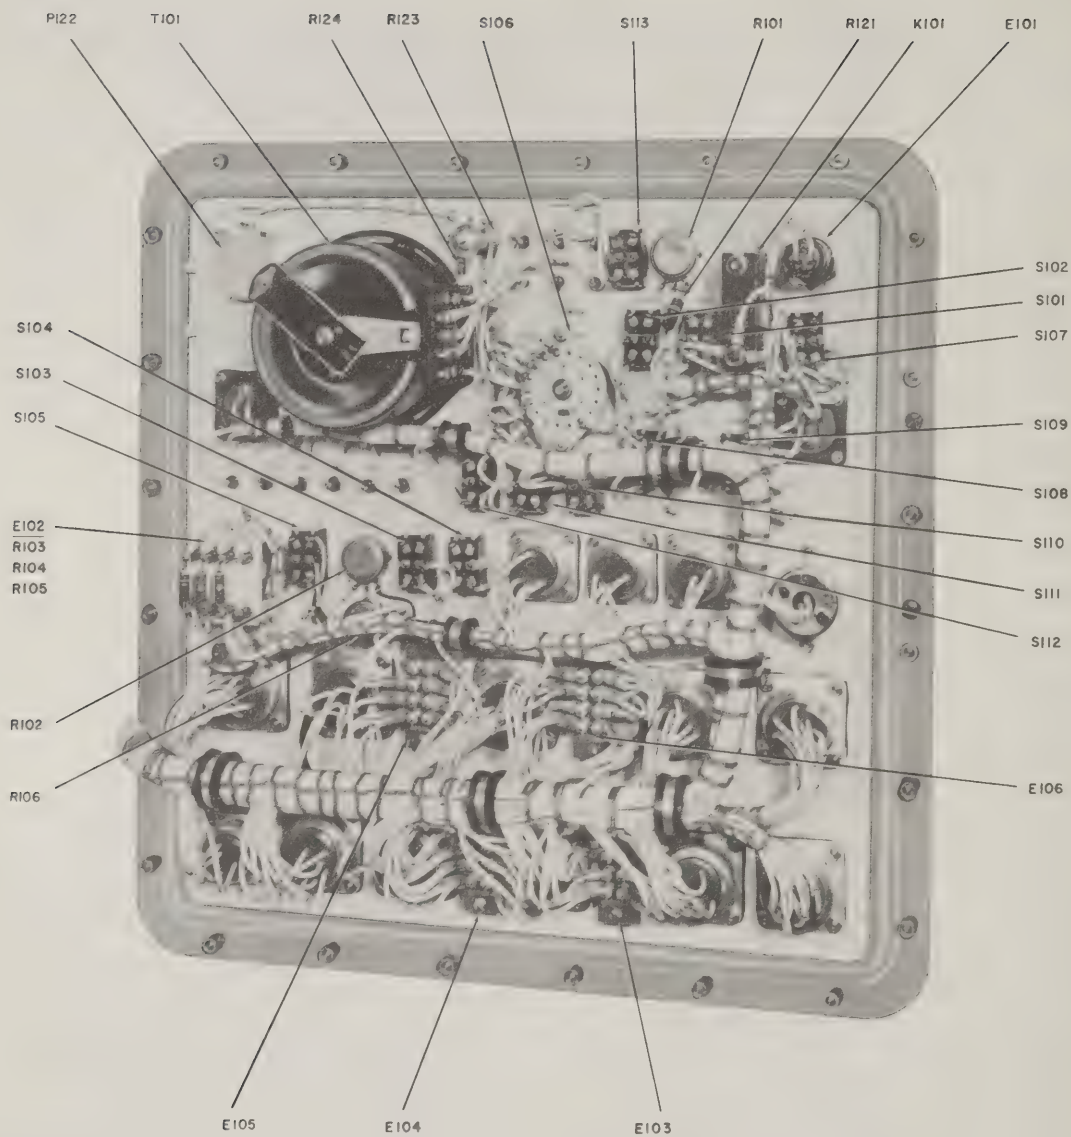
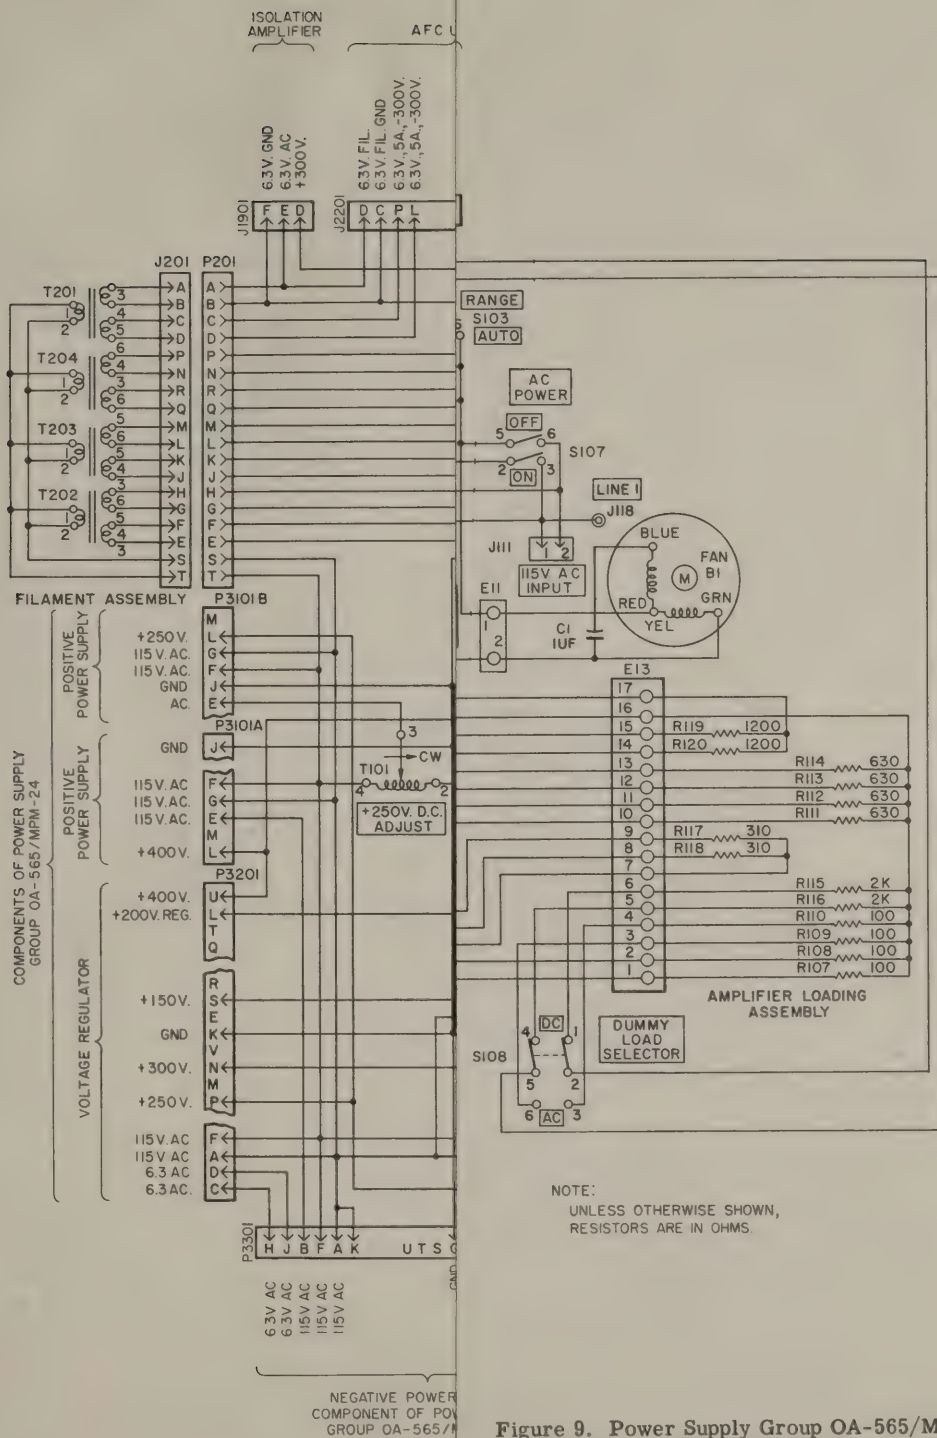

Figure 8. Control panel, rear, components.
Figure 9. Power Supply Group OA-565/MPM-24, schematic diagram.
a. **General.** Circuit functioning of the test equipment controls and components is described below. Refer to figure 9 for a schematic diagram of the power supply group. Reference should be made to the Instruction Books for Radar Sets AN/MPQ-10 and AN/MPQ-10A for schematics of the components to be tested.
d. Components. The locations of front-panel components are shown in figure 8. Figures 9 to 12 inclusive are electrical schematics of the power supply group and its components.